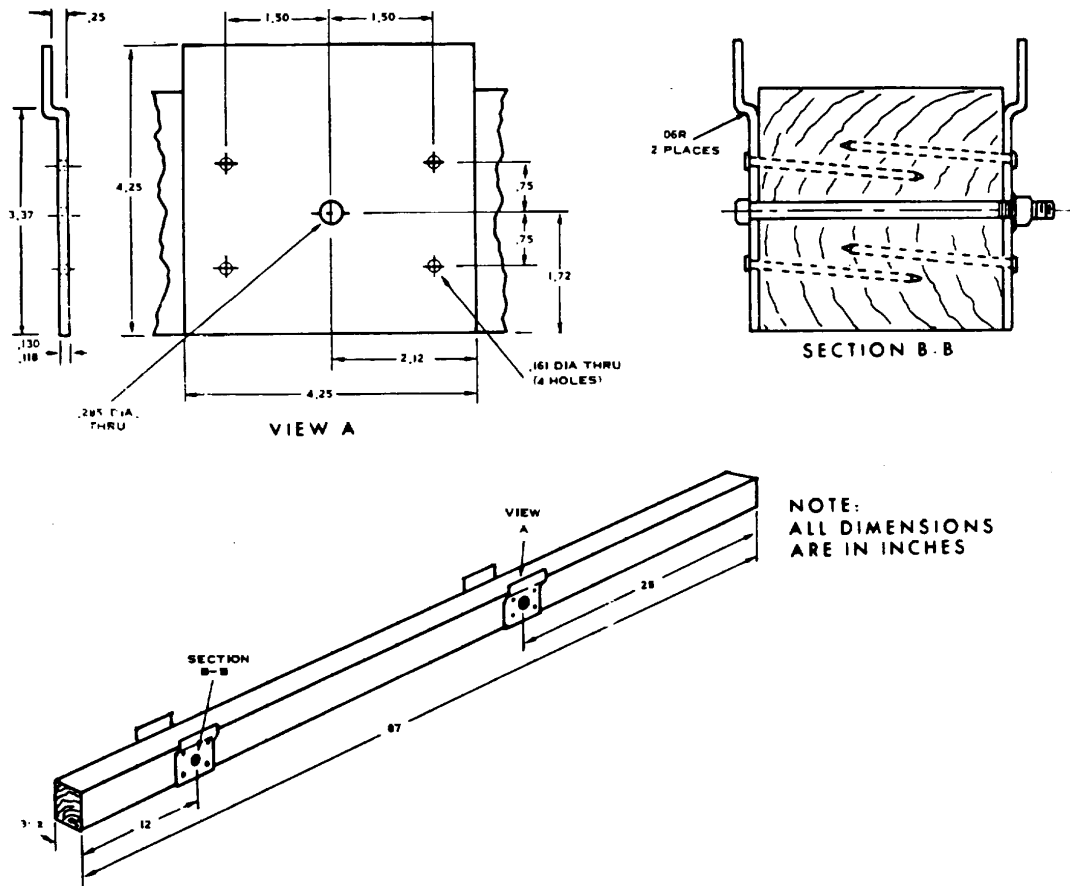

Figure 1. Spacer assembly.
c. Place the two spacer assemblies (fig. 1), plate tabs up, on the cargo bed with the short end at the rear so that the skids are placed between the plate tabs (fig. 2A). Position the shelter parallel to and equally spaced from the cargo body sides of the truck. The shelter should be equally spaced, front to back, but may be slightly forward to insure tailgate closing.